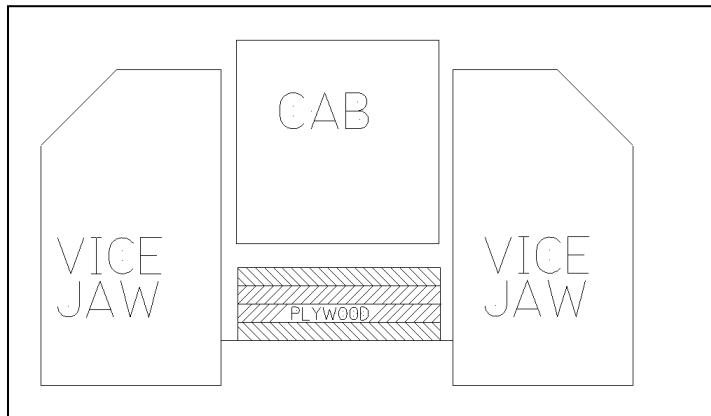

Figure 50: Positioning of the Cab and Plywood Spacer in the Vice for Drilling.
- Using the drill press, center drill the three cross-hole locations. When drilling, put a plywood spacer under the base to prevent drilling into the vice of the vertical miller. (See Figure 50).